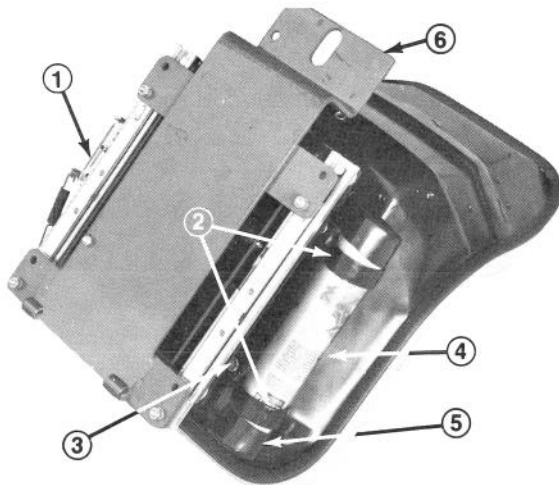
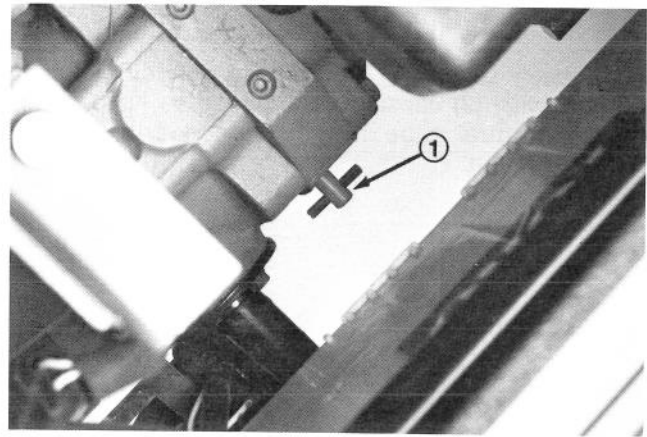

Figure 11
Figure 12
5. Mount seat suspension assembly to (4) cap-screws on seat bottom and secure with (4) lock-washers, flatwashers and nuts (Fig. 11).
6. Loosely secure (2) R-clamps to right side of seat bottom with (2) capscrews supplied in kit (Fig. 12). Install manual tube into R-clamps and tighten cap-screws (Fig. 11).
1. Reach in under seat and rotate by-pass valve (Fig. 12) counterclockwise 1/2 to 1 turn. Opening the valve opens an internal passage in the pump, thereby by-passing transmission oil. Because fluid is by-passed, the machine can be pushed without damaging the transmission.